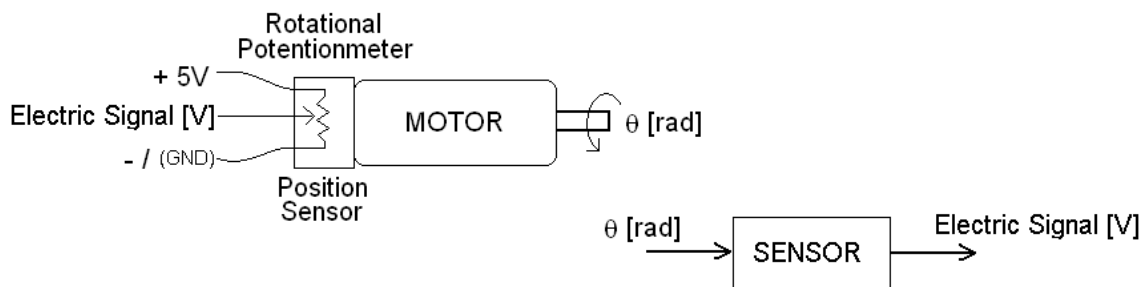

Figure 2 - Diagram of rotational potentiometer
- Rotational Potentiometers: Voltage varies as a function of rotational position (angle). (Figure 2).